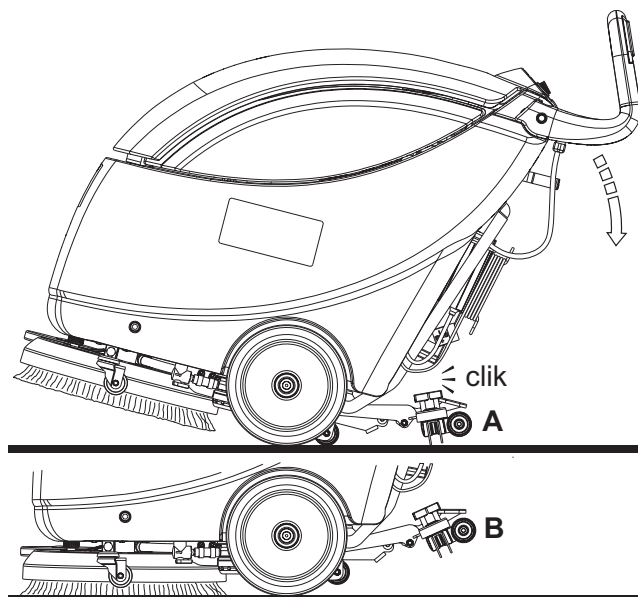

Figure 3
10. Release the brush enabling push-buttons (51).
11. Turn the switch (53) to "0", to turn off the vacuum system motor.
12. Turn the switch (52) to "0", to turn off the brush motor.
13. To turn off the machine, turn the main switch (26) to "0".
14. Disconnect the power supply cable plug (21) from the electrical mains and place it on the holder.
15. Engage the positioning pin (24) and activate the machine transport/parking device (23a) to keep the brush/pad-holder lifted (see Fig. 3).
1. Grasp the handlebar (2), lower it until the rear wheel (7) touches the floor (A, Fig. 3) then engage the squeegee in lifted position (B).